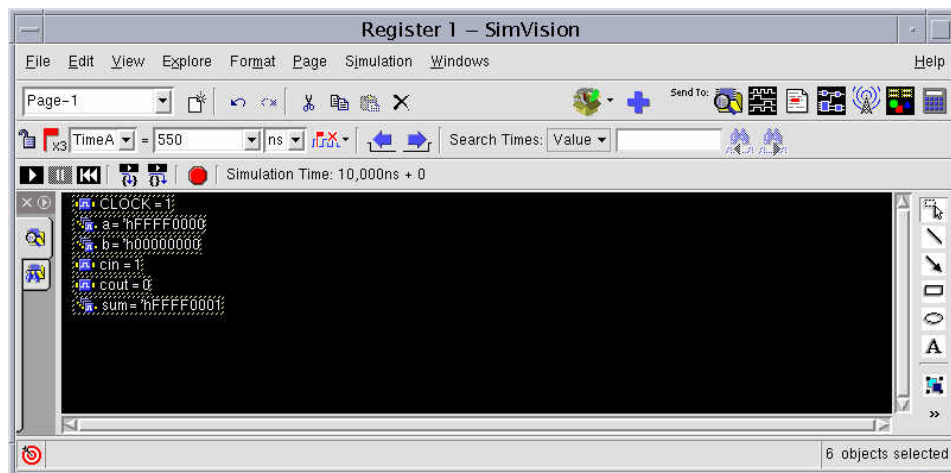

Figure 3-25 Adding signals to a Register window.
2. Click on the **Register**  button to send these signals to a **Register** window, as shown in figure 3-25.